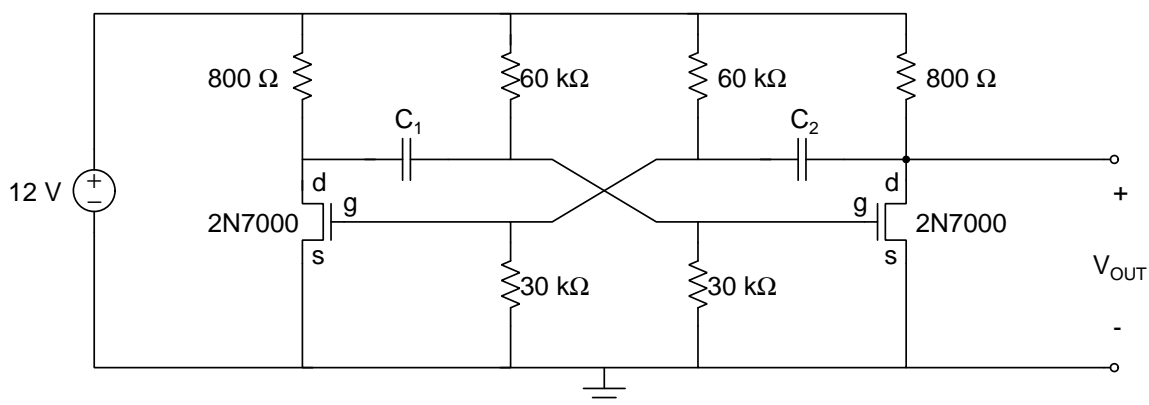

Figure 2: Astable multivibrator circuit of Figure 1 with 2N7000 transistors used as voltage-controlled switches.
2. The NMOS transistor can function as a voltage-controlled switch. In an NMOS transistor, current flows from the drain (D) terminal to the source (S) terminal when the gate (G) to source (S) voltage (V_{GS}) is greater than the threshold voltage (V_t) of the transistor. No current flows from the D terminal to the S terminal when V_{GS} is less than V_t .
- Simulate the operation of the astable multivibrator circuit using the 2N7000 NMOS transistors to implement the voltage-controlled switches, as shown in **Figure 2**. In NGspice, use the **2N7000_mod** symbol for the transistor model. This transistor has a nominal $V_t=1.5 \text{ V}$.
3. Build the full astable multivibrator circuit shown in Figure 2. This circuit should oscillate when power is supplied.